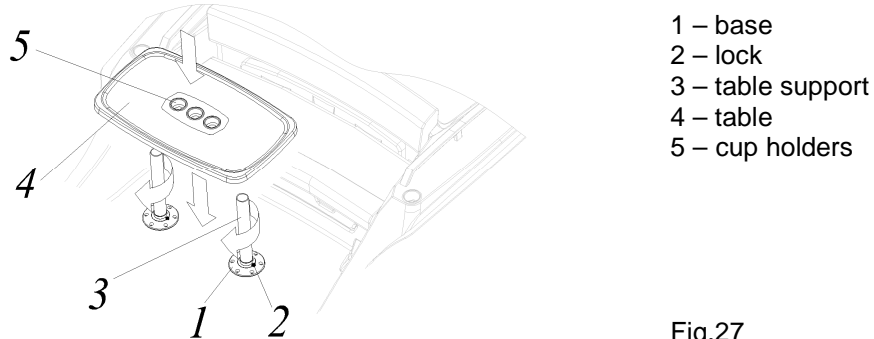

Fig.27
Install (Fig.27) the table support (3) into the base (1) with the threaded part down. Rotate the table support clockwise until the lock (2) clicks into place. Install the second table support by the same way. Just slide the table onto the supports (3), press the table lightly to secure it in place.